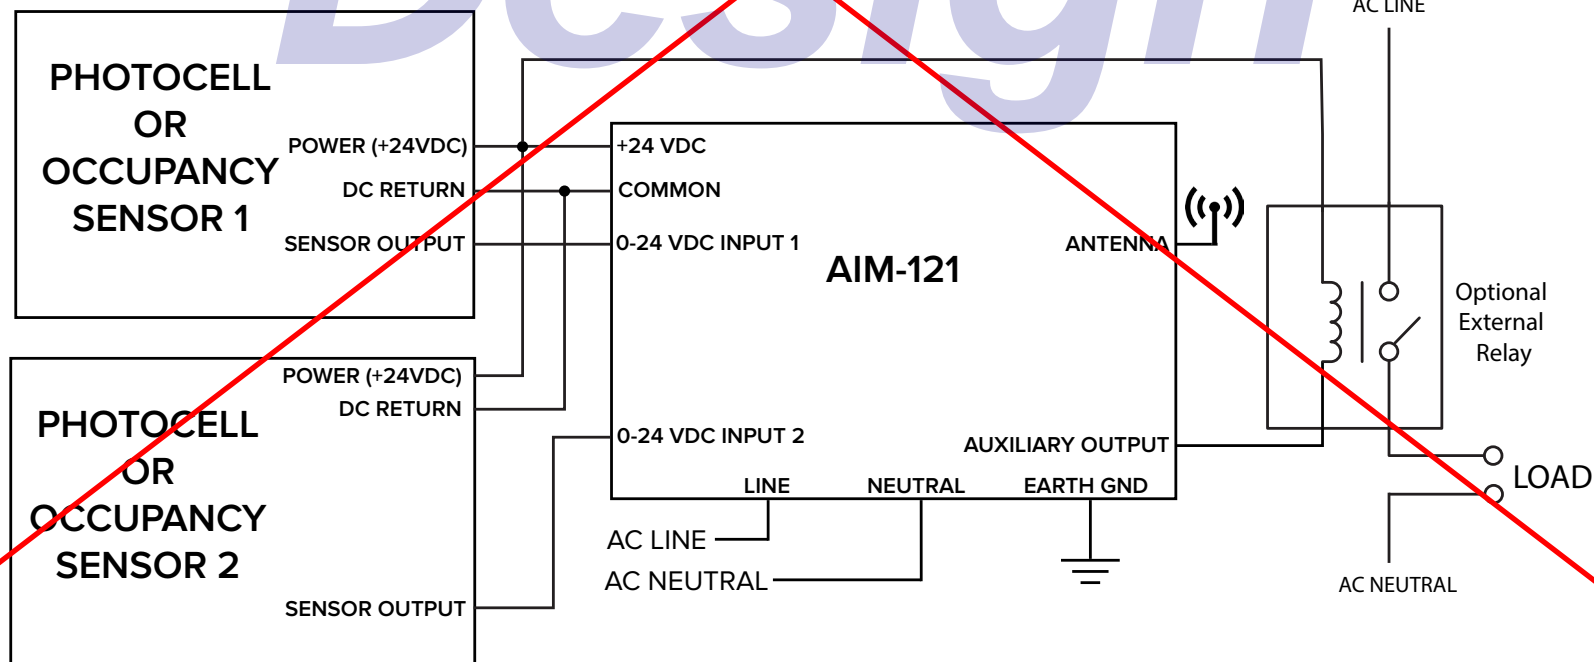

Figure 3 - Wiring Diagram
3. Refer to Figure 3 for connecting sensors (if applicable).